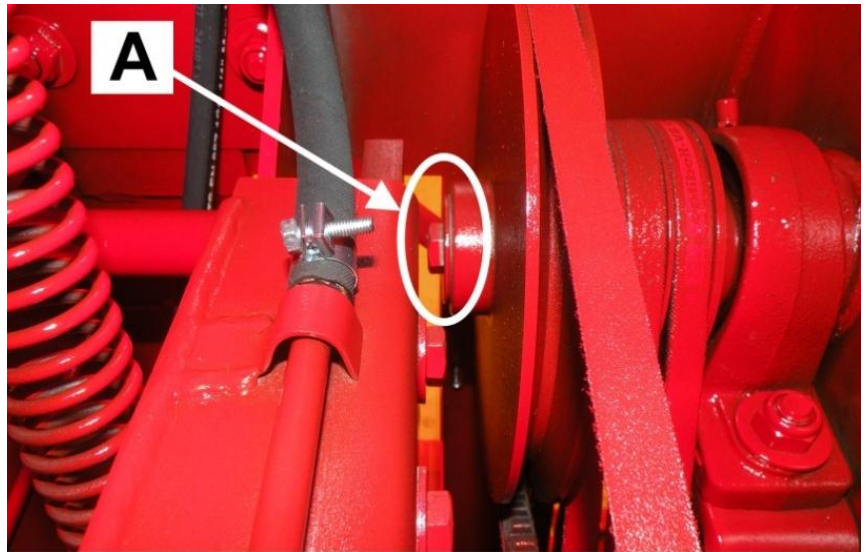

Figure 41.
4. Remove the belt pulley bolt A in Figure 41, and slip the belts (3 pcs, A 38) off the upper belt pulley.
5. Install the new belts, and re-attach the fastening bolt A in Figure 41.